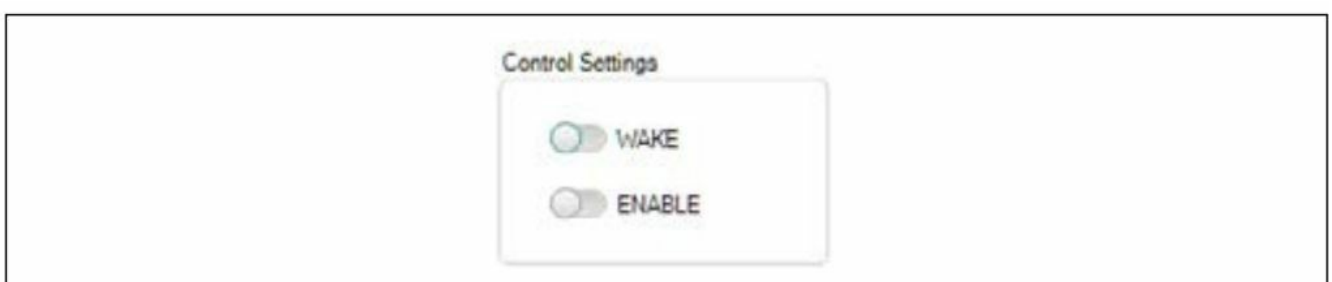

Figure 4. Control-Settings Group Box
- The Control Settings group box allows the user to enable or disable the MAX22210 or enter and exit sleep mode (see Figure 4).